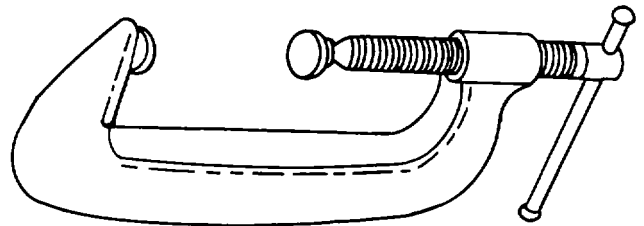

Figure 4-55. Carriage Clamp
- (2) *Care.* Observe the following practices for the care and upkeep of bench vises:
- b. Carriage Clamps. The carriage clamp, commonly called a C-clamp, is constructed in the shape of a large C, as shown in figure 4-55. It is tightened by use of a screw threaded through one of the bars and has a swivel plate to prevent the end of the screw from turning against the item being clamped. C-clamps are used to hold work which cannot be held in a vise, or which has to be held for an extended period of time. They are available in a variety of sizes.